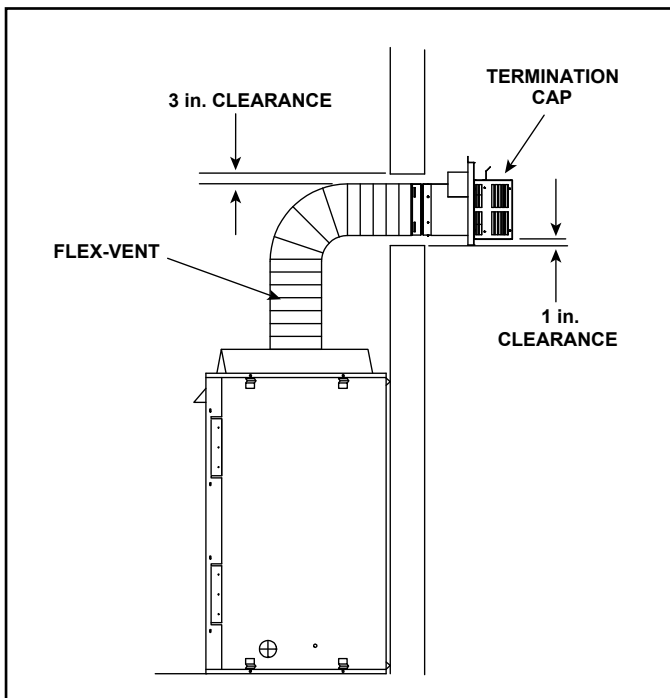

Figure 4.8 Flex Vent Pipe - Generic Fireplace Shown
A support is required at each change in venting direction, and in any location where it is necessary to maintain the necessary clearance to combustibles. A simple “up and out” installation (Figure 4.8) requires only enough support to maintain the necessary clearance to combustibles. However, the vent attachment point and the firestop location are considered to be supports.
**Note:** There MUST be a 25% reduction in total H when using flex vent except when using the simple up and out installation. See Figure 4.8.
**Note:** There **MUST** be a 25% reduction in total H when using flex vent except when using the simple up and out installation. See Figure 4.8.